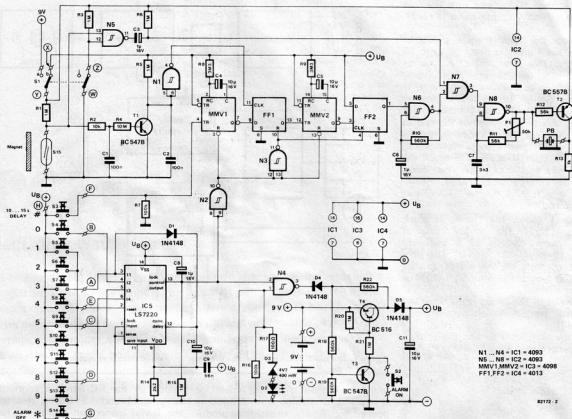

Figure 2. The complete circuit. As drawn here, the code for deactivating the alarm is 3058; this can be changed to any other four-digit number.
Figure 2 shows the circuit diagram of the complete alarm. As a result of depressing S2, T4 conducts. This in turn provides base drive for T3: the circuit latches 'on'. Initially the input of N2 is pulled high, via C8. This caters for power-up reset, after all we do not want the alarm to sound instantly!
The printed circuit board is shown in figure 3. Any type of keyboard will do, as long as it is possible for all the keys to be connected to a common rail (see figure 2). For this reason a so called matrix keyboard is unsuitable. The code given by the connections shown in figure 2 is merely a guide line. Any four digit code can be programmed by connecting the appropriate keys to the I1...I4 inputs of IC5. Remember to connect all the other keys to the reset pin (E).